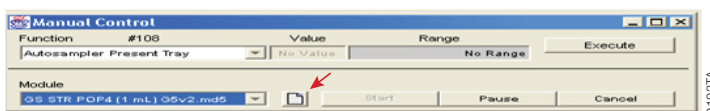

Figure 3. The Manual Control screen.
4. Click on the folded page icon (Figure 3).